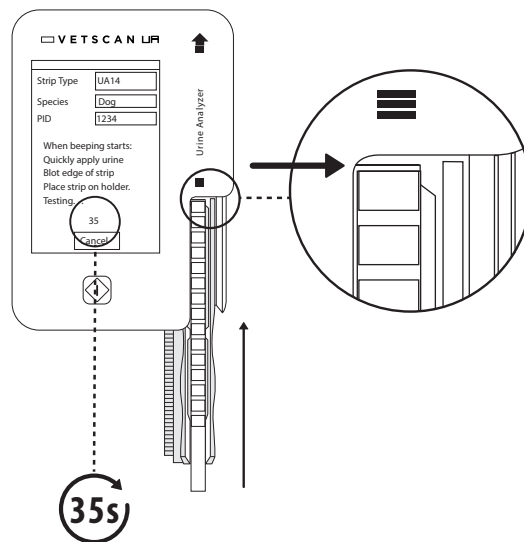

Fig. 14 Insert Strip onto Strip Tray.
8. Place strip on the UA Strip Tray. The end of the strip should align with the end of the trough in the Strip Tray, approximately where the top cover of the UA analyzer is indented (Fig. 14). **This step MUST be completed before the countdown timer reaches 35 as the Strip Tray will begin to slide into the analyzer.** The UA analyzer will time the reactions and scan when appropriate.